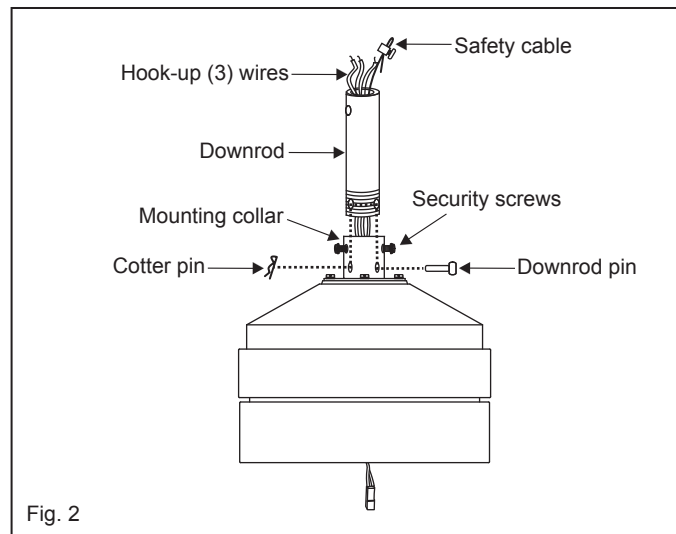

Fig. 2
- 3 Loosen the two security set screws and remove the downrod pin and retaining clip from the coupling on top of the motor assembly. (Fig. 2)
2. Make wire connections from the fan to the receiver unit. For this step use the bundle of 5 wires on the receiver. (Fig. 2)